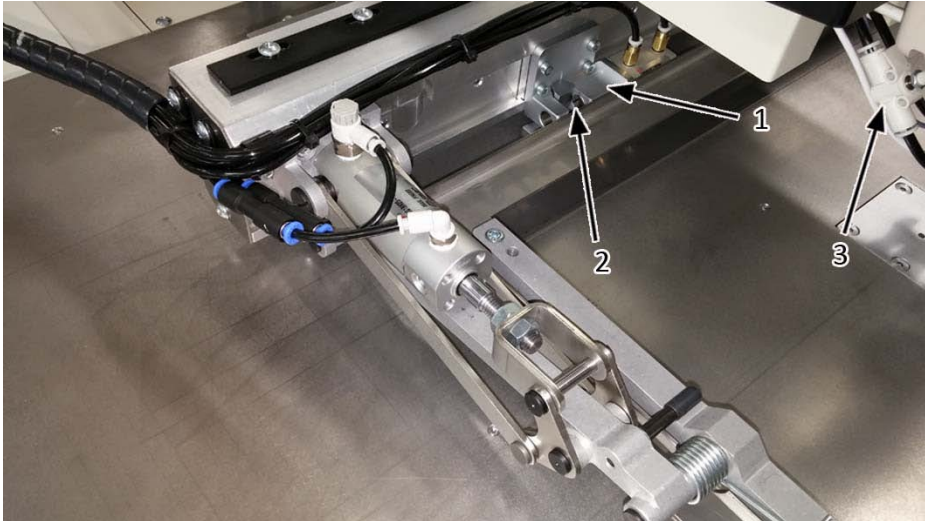

Fig. 46
Fig. 46 shows valve (3) for adjustment of the amount of air supplied to the cooling nozzle.
Lower feed frame, which is removable, is connected with the X-axis movement mechanism by means of lock (1), see fig. 46. It is necessary to lubricate the locks by spray lubricant with teflon as indicated by arrow (2) approximately once a week.